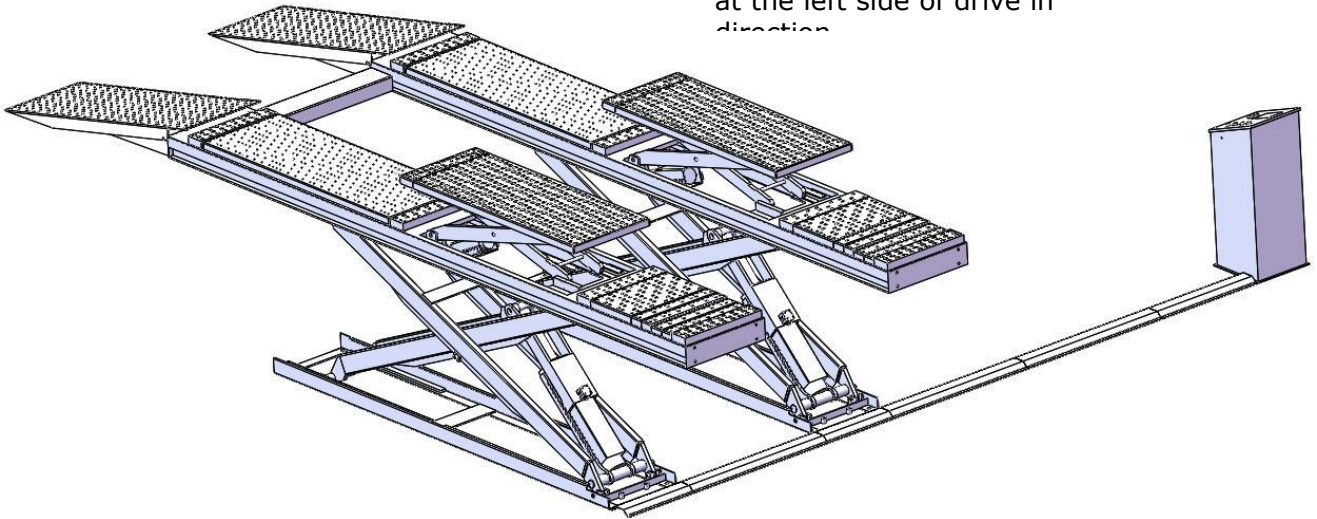

Fig. 4
1.2 Illustration of DX-12A on surface installation (See Fig.4).